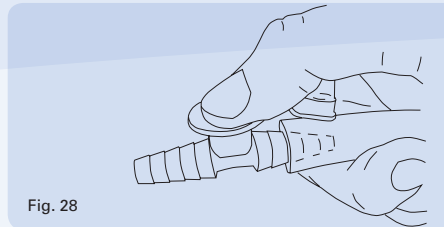

Fig. 28
2. Control the aspiration procedure and the desired vacuum via the additional air opening on the fingertip (example in fig. 28)